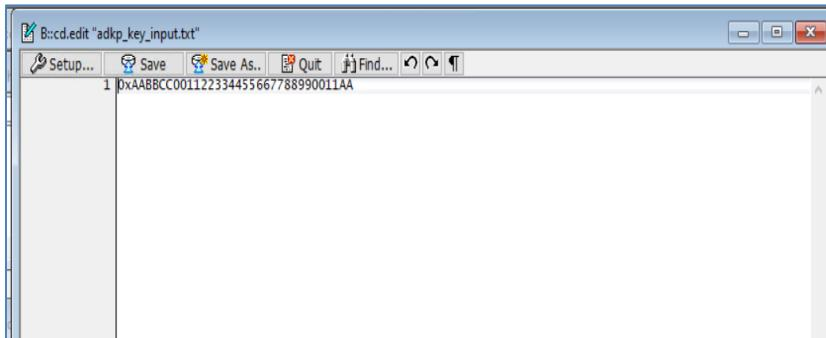

Figure 50. ADKP key input text file
- Once the user clicks No, user have text document open up as shown in Figure 50. The input for text document is in hex format only (Figure 50).